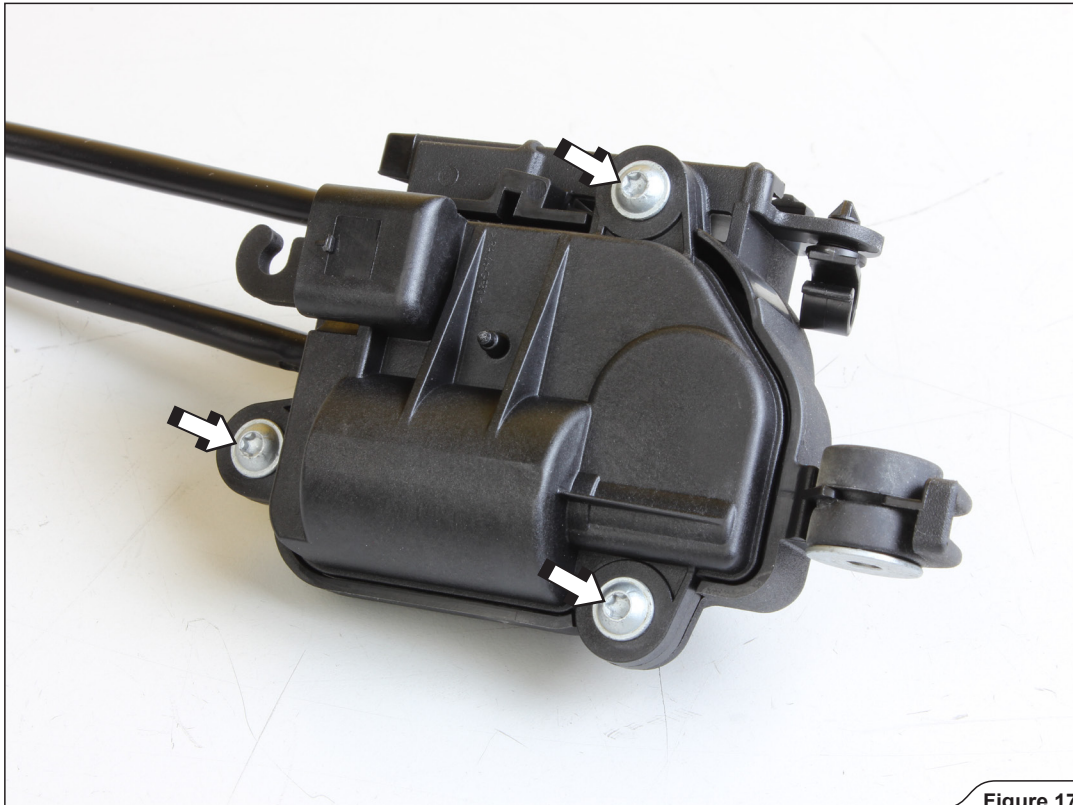

Figure 17
13. Unscrew the servo motor's cover, remove the cables and reinstall the cover (Figure 17, 18, 19).